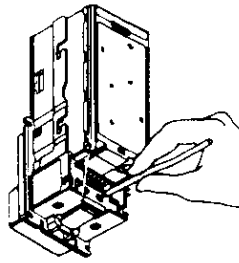

Figure 4
3. Locate the service button on the back of the unit (refer to Figure 4). depress the button once to enter coupon set-up mode. Depressing again will exit the mode.